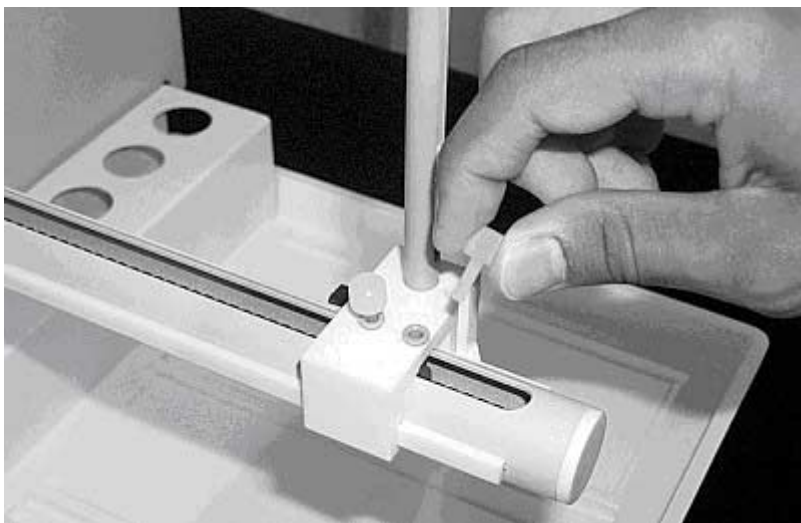

Figure 1-2. View of Y- axis home block with Kynar thumbscrews.
1. First, remove the two Kynar thumbscrews from the Y-axis home block. See Figure 1-2.